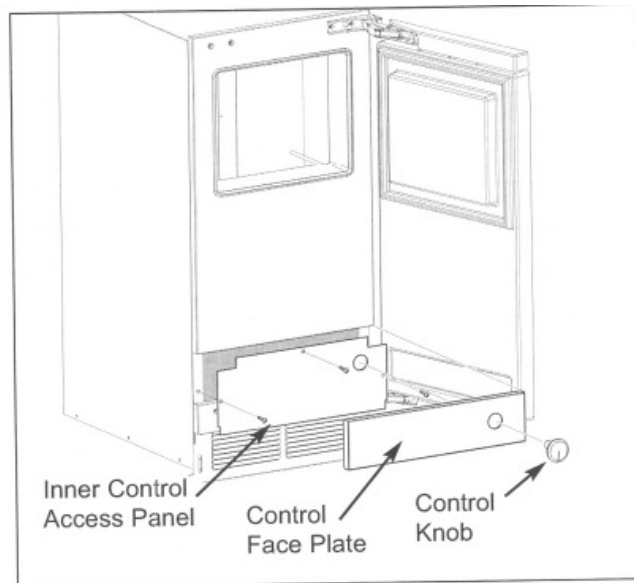

Figure 2-12.
1. Pull the control knob from the ice machine control shaft. (See Figure 2-12)
2. Remove the control face plate by pulling the top forward to disengage the velcro strips, then lift up. (See Figure 2-12)
3. Remove the inner control access panel by extracting the three screws, then lower the panel slightly and pull forward. (See Figure 2-12)